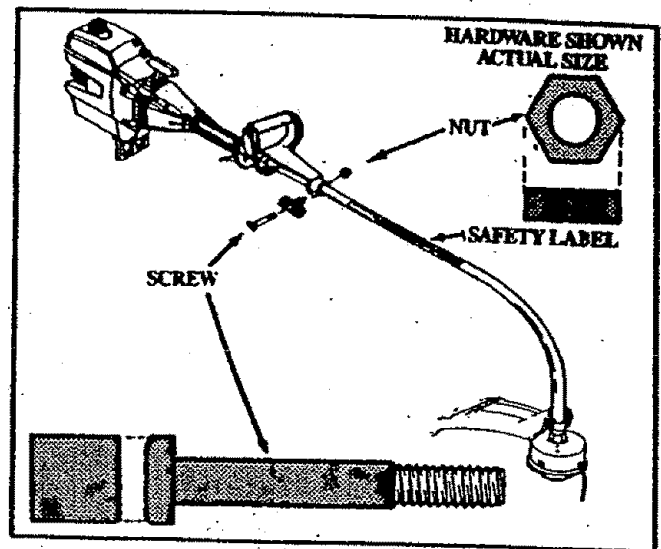

Figure 8
5. ASSIST HANDLE -- Figures 8 & 9
a. Be sure the Handle is positioned between the Safety Label and the Throttle Trigger. Figure 8.
d. Pull on the threaded end of the Screw to bring the square head of the Screw past the pin inside the T-Handle. Twist the Screw to seat the head of the Screw in the recessed square opening inside the T-Handle. Figure 8.
e. Push the Nut into the hex opening in the Assist Handle and install the T-Handle into the round opening. Figure 8.